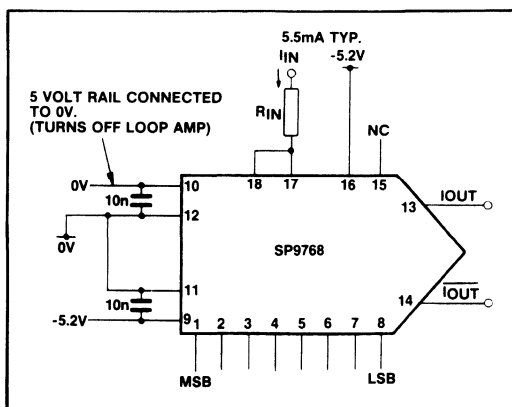

Fig.6 Multiplying mode operation (current mode)
**Current** A circuit for using the DAC in current multiplying mode is shown in Fig.6. The transfer function is approximately:  $I_{OUT} \text{ (Full Scale)} = 4 \times I_{IN}$ . In this mode the current setting loop amplifier is not used, and any possibility of instability or interference can be averted by turning off the amplifier by connecting  $V_{CC}$  to 0V as shown.